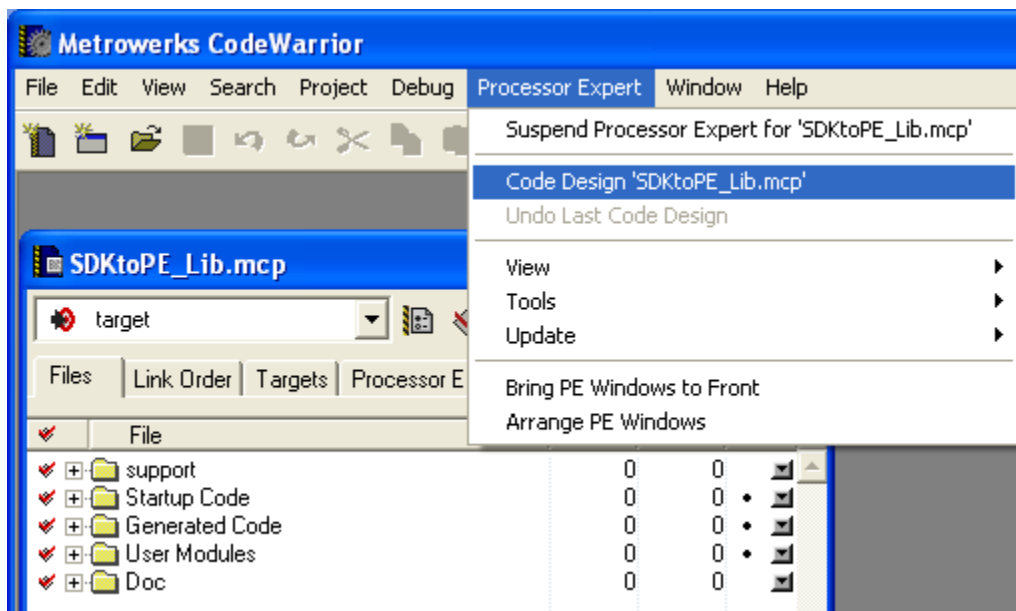

Figure 4-2. Generate PE Base Files
2. Generate code, which allows PE to create the basic project files associated with the 56F801 target system. **Figure 4-2** shows the PE menu selection that generates the base files; the base structure is also shown.